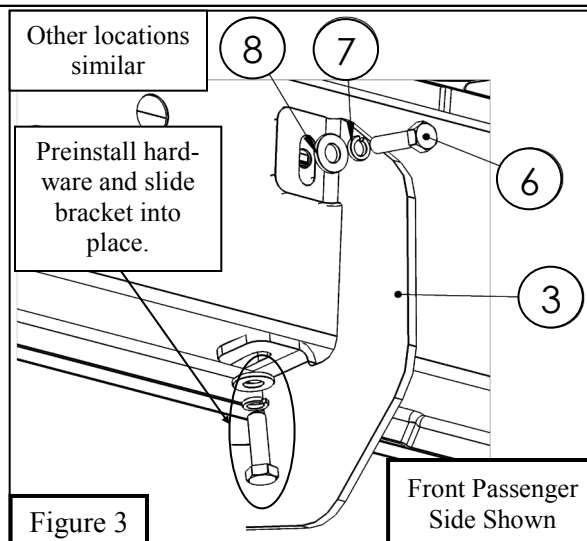

Figure 3
5. Partially install the M8 Hardware in the bottom of the rocker panel and then slide the Mounting Brackets (3 & 4) into place and install the remaining M8 Hardware. See **Figures 3 & 4**.